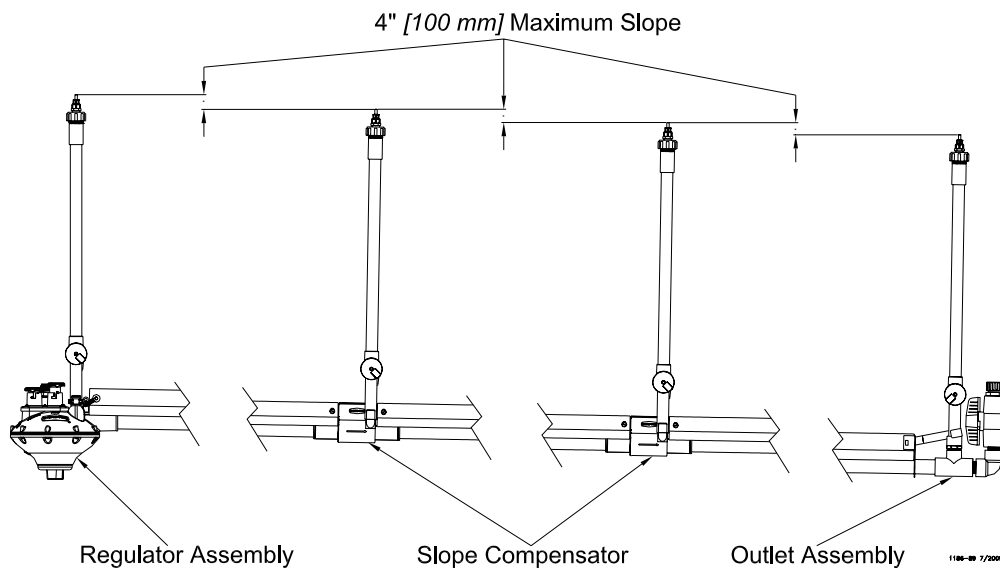

Figure 14. Slope Compensator Assembly Installation
- The maximum amount of drop between the inlet assembly and the slope compensator, or between two slope compensators, or between the slope compensator and the outlet assembly is 4 inches [100 mm]. See **Figure 14**.
- The maximum amount of slope over any water line is 28 inches [71 cm] of drop. See **Figure 14**.